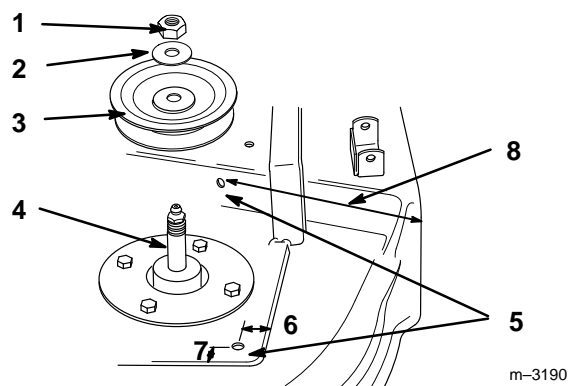

Figure 4
8. Remove the belt, nut and washer from the right-hand blade spindle. Remove the single pulley and slide short spindle out of the spindle housing (Fig. 4).
9. Drill (2) 11/32" holes, previously marked, in front and rear of mower for deflector Ref. 9-1/2" (24.1 cm) (Fig. 4).
10. Mark and drill (1) 11/32" hole for spring clip mounting (Fig. 4).